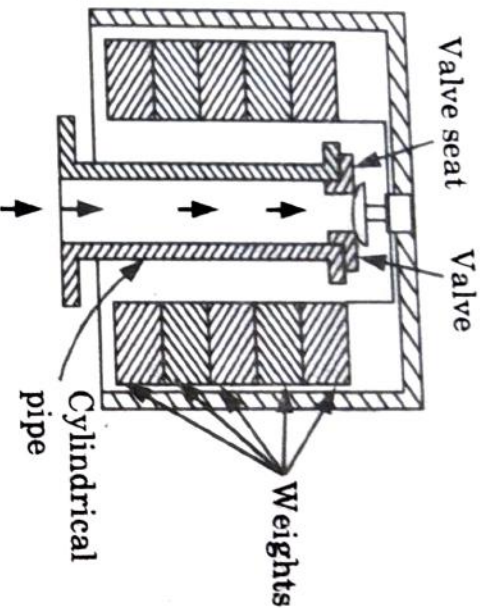

Fig. 3.5.2. Dead weight safety valve.
4. Fig. 3.5.2 gives the general description of dead weight safety valve. It has a large vertical pipe on the top of which a valve seat is fixed. Valve rests upon this valve seat.